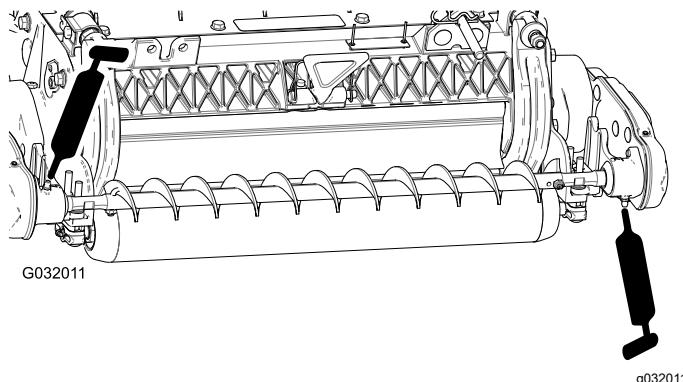

Figure 19
- Lubricate the grease fittings on each of the roller-brush bearing housings with No. 2 lithium grease (Figure 19). Wipe off any excess grease, especially around the excluder seals.